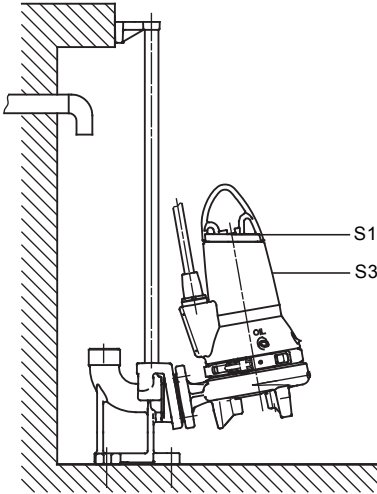

Fig. 7 Operating levels
S3 operation is a series of identical duty cycles (TC) each with a constant load for a period, followed by a rest period. Thermal equilibrium is not reached during the cycle. See fig. 7.